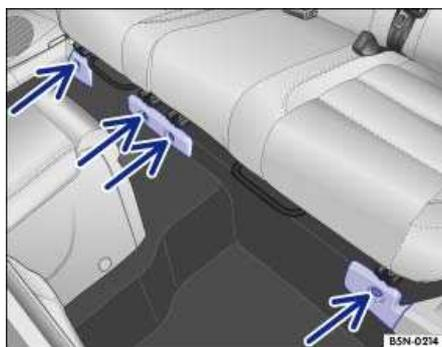

Fig. 65 Rear bench seat front mountings
- Remove the covers (no illustration) on the hexagon nuts ⇒ Fig. 65 (arrows) in the rear footwell.
- Remove the hexagonal nuts ⇒ Fig. 65 (arrows) using the lug wrench.
- Remove the hexagon nuts ⇒ Fig. 65 (arrows) in the rear footwell again, place the three plastic covers on the bolts and attach them with the hexagon nuts.
- Tighten the hexagon nuts ⇒ Fig. 65 (arrows) with a torque wrench to 29 ft lbs. (40 Nm). If there is not a torque wrench available, tighten the hexagon nuts with the lug wrench and have the tightening torque checked as soon as possible by a qualified workshop ⇒ .
- Clip the small covers (no illustration) of the hexagon nuts ⇒ Fig. 65 (arrows) into the protective plastic covers.